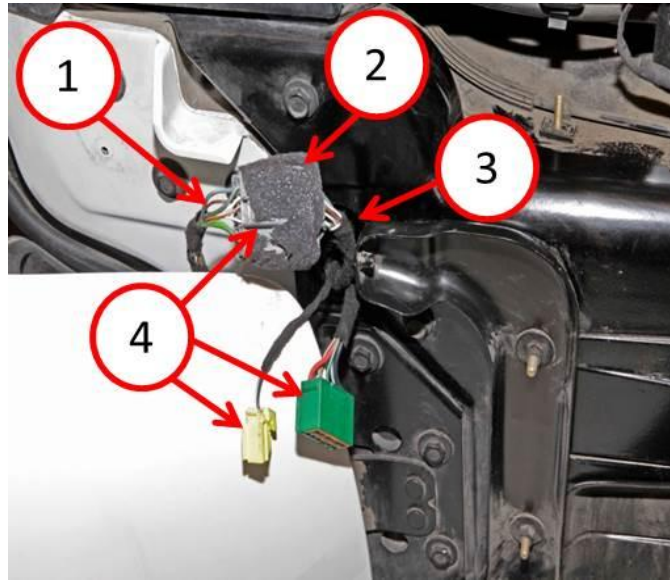

Fig. 2 A Pillar Connectors
7. Disconnect the three electrical connectors at A pillar (Fig. 2).
10. Connect the three electrical connectors to door harness (Fig. 2).
11. Install new foam tape on the three electrical connectors and push electrical connectors into A pillar opening (Fig. 2).